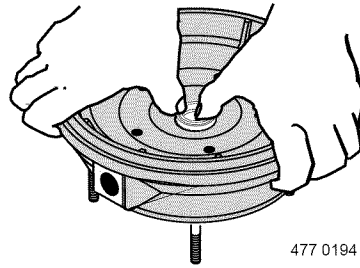
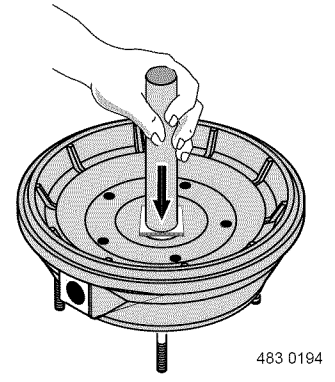

Figure 7A
Figure 7B
- C. With finger pressure press seat firmly and squarely into cavity. See Figure 7A. Polished face of seat faces inside of pump. If seat will not locate properly, place cardboard washer over polished face and use piece of 3/4" standard pipe for pressing purposes. See Figure 7B.